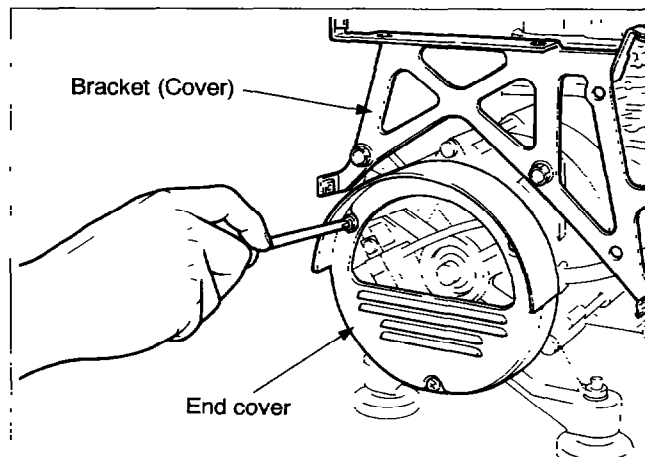

Fig. 10-14
| 9. | Bracker (Cover) | (1) Remove the bracket cover from the generator by loosening the two M8 × 30 bolts. (See Fig. 10-14.) | | 13mm box wrench |
| 10. | End cover | (1) Remove the end cover from the generator by unscrewing the three M4 × 8 screws. (See Fig. 10-14.) | | (+) Driver |